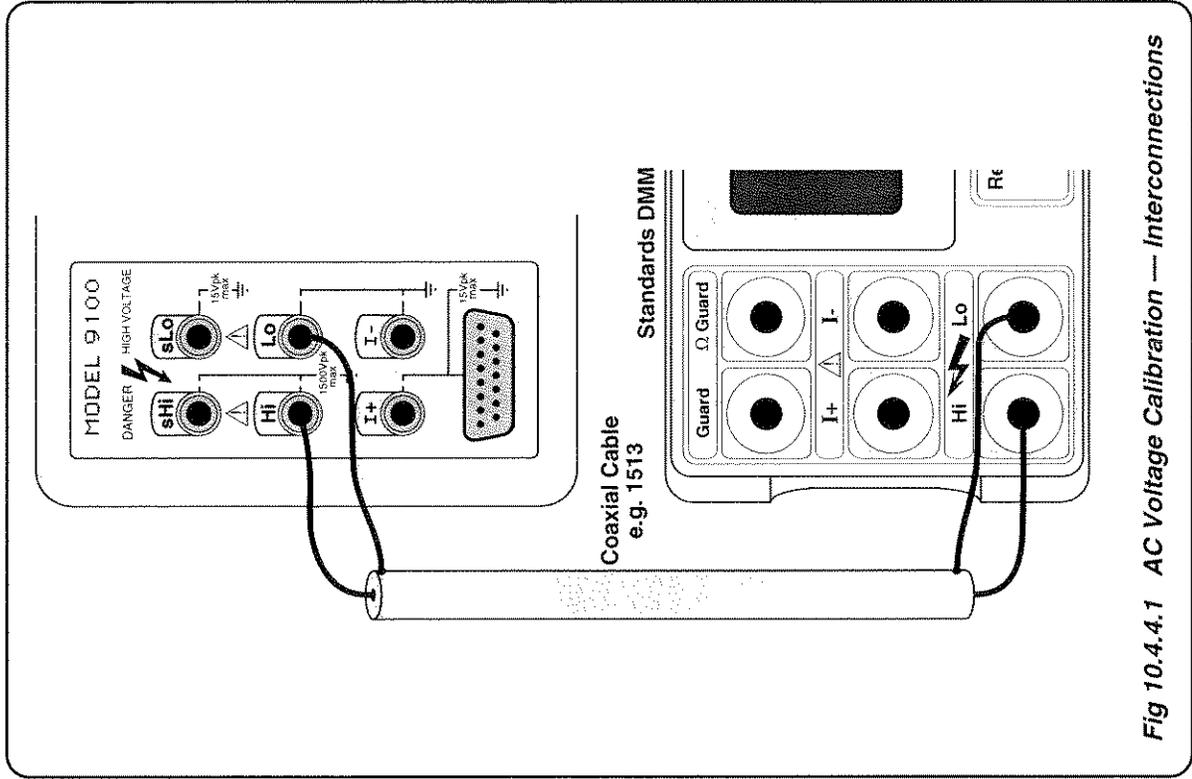

Fig 10.4.4.1 AC Voltage Calibration — Interconnections
1. **Connections** Ensure that the 9100 is connected to the Standards DMM as shown in Fig. 10.4.4.1, and that both instruments are powered on and warmed up.